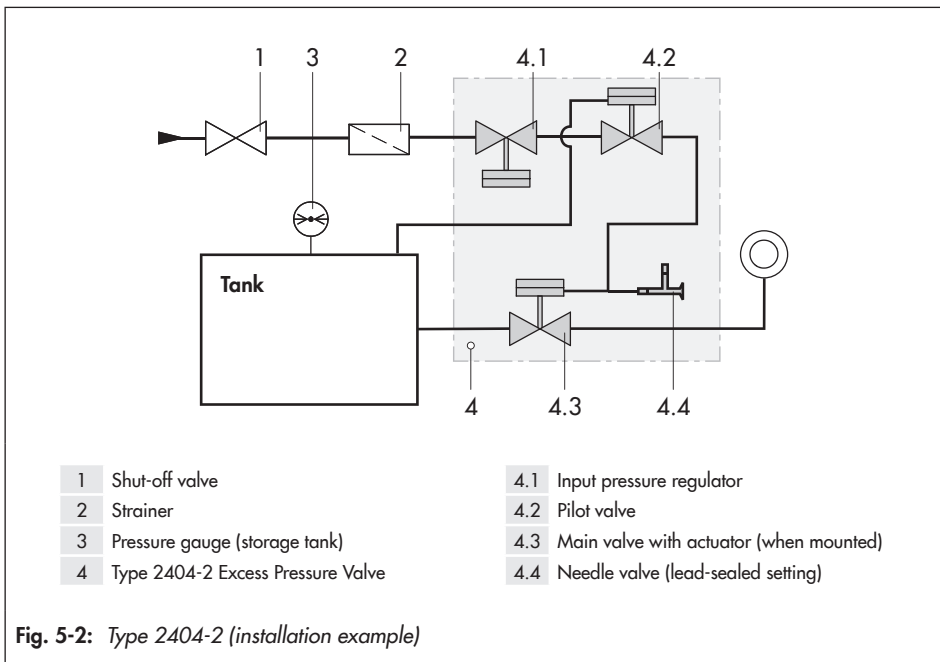

Fig. 5-2: Type 2404-2 (installation example)
➔ See Fig. 5-2.
1. While installing the regulator, close the shut-off valve (1) in the supply line upstream of the input pressure regulator (see Fig. 5-2).
7. Fasten the supply line (pipe \varnothing 1/2") to the input pressure regulator (4.1) free of stress (see Fig. 5-2).
8. Fasten the control line (pipe \varnothing 1/2") to the pilot valve (4.2) free of stress (see Fig. 5-2).
1. Slowly open the shut-off valve (1) installed upstream of the regulator (see Fig. 5-2).